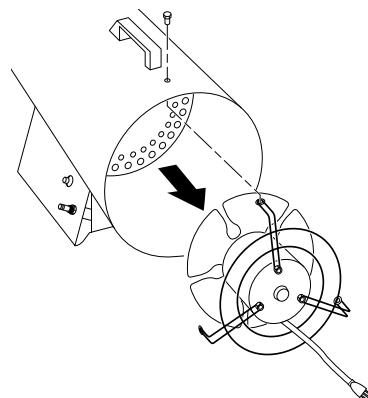

**Figure 9 - Replacing Motor and Fan Guard into Heater**
9. Place motor and fan guard into rear of heater shell. Make sure power cord is properly located (see Figure 9).